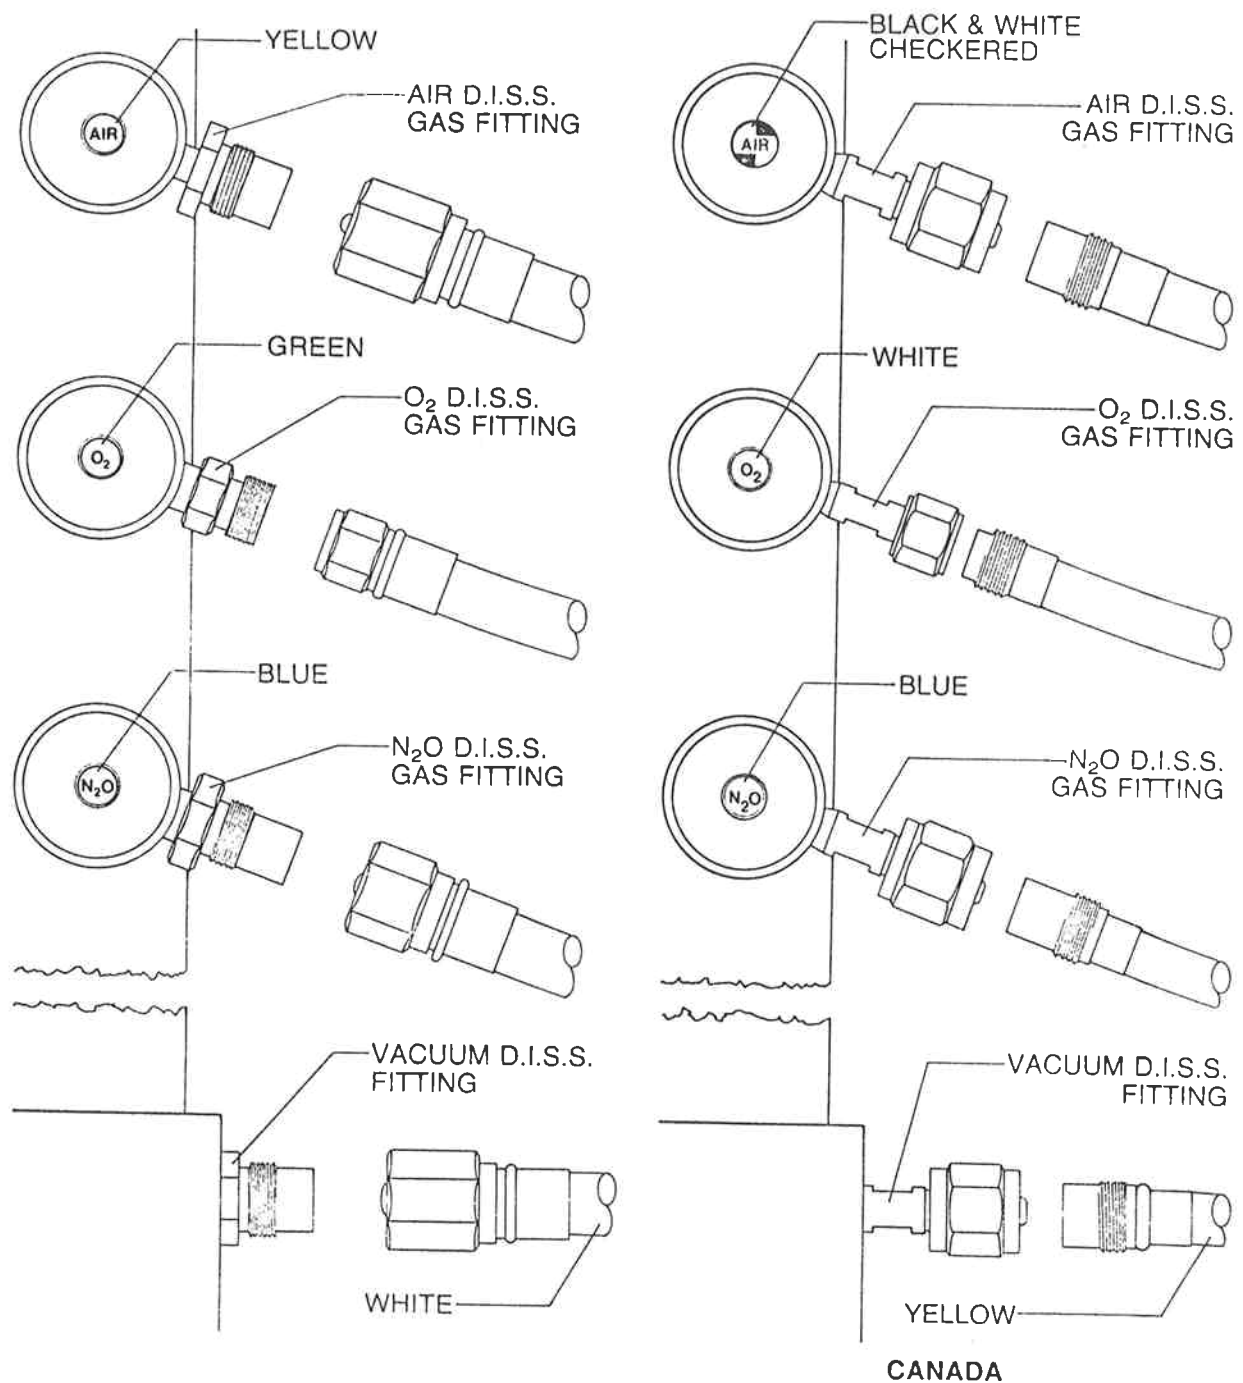

FIGURE 34: SUPPLY LINE DISS GAS FITTINGS AND SUPPLY HOSE CONNECTIONS (AIR OPTION)
Pipeline connections for oxygen, nitrous oxide, and an optional third gas are located on the side of the flowmeter housing (Fig. 34). Standard Diameter Indexed Safety System (DISS) gas fittings are used for each gas.
2. Connect the gas fitting on the supply hose to the corresponding gas fitting on the side of the flowmeter housing (Fig. 34). Use a wrench to tighten the attached hex nut.